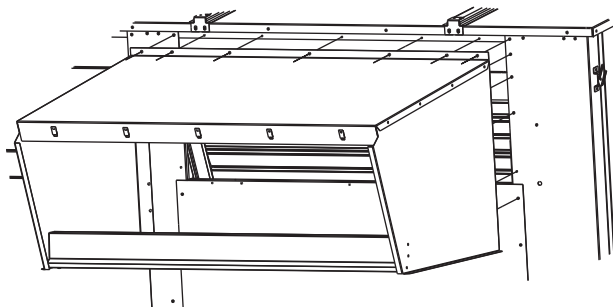

Fig. 34 — Removing Screws from the Outdoor Air Opening of Unit
8. Remove the screws on each end and along top of the outdoor air opening of unit. Set hood assembly in place and attach to unit using gasketed screws. See Fig. 34.